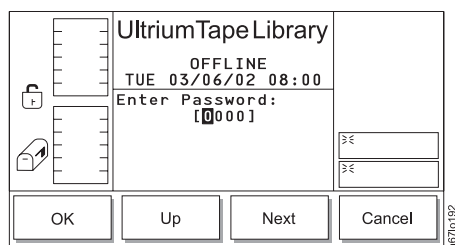

Figure 4-122. Enter Password Dialog
3. Press the button below the **Secure** softkey. The Enter Password Dialog displays (see Figure 4-122).